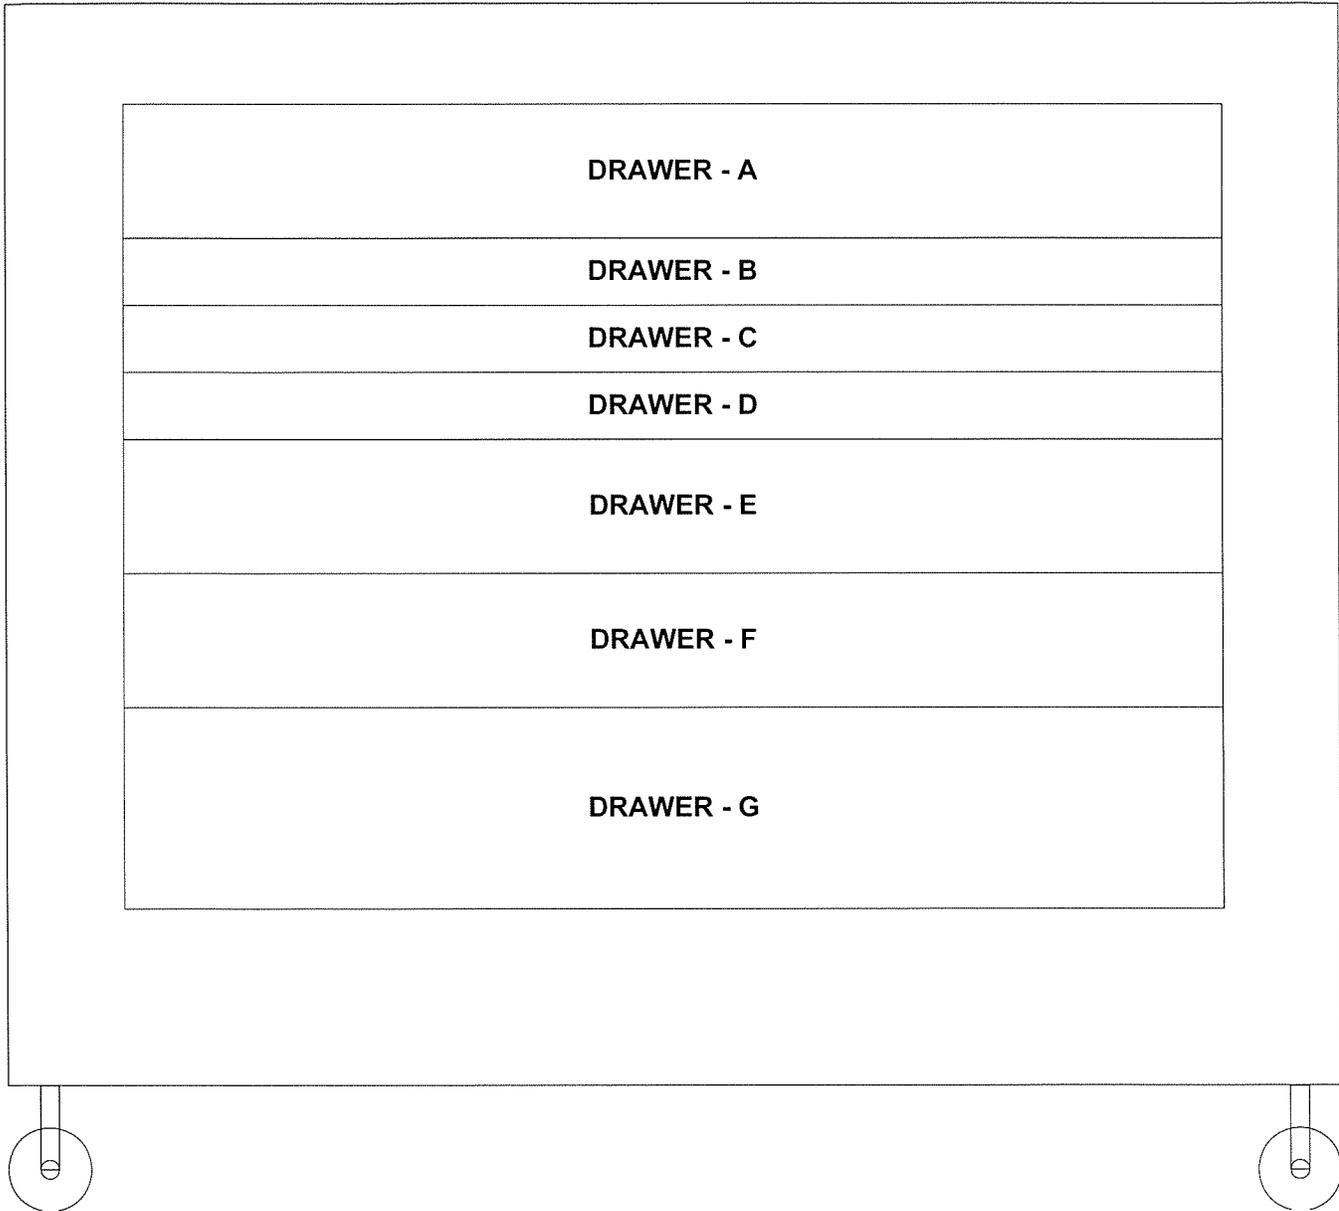

Figure 4-8. Rollaround, Seven Drawer, 5140-01-474-5089
- i. Rollaround, Seven Drawer 5140-01-474-5089, shown in Figure 4-8, has drawers approximately 31 by 22 inches. The top three drawers are 1-3/4 inches high; the next three drawers are 4 inches high, and the bottom drawer is 6-1/4 inches high. The outside dimensions are approximately 36 by 24 by 40 inches. This box will hold approximately 220 tools.